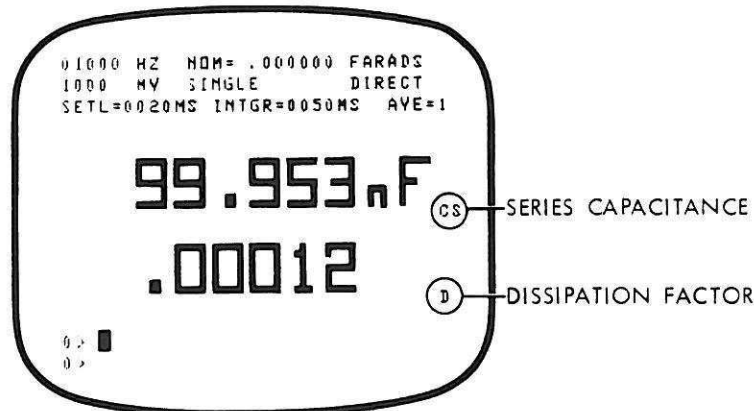

Figure 2-8. Measurement Display
The Model 2100/2110 initially measures series capacitance (Cs) and dissipation factor (D) when power is applied (see Figure 2-8). These measurement functions can be changed at any time by pushing the desired function button.